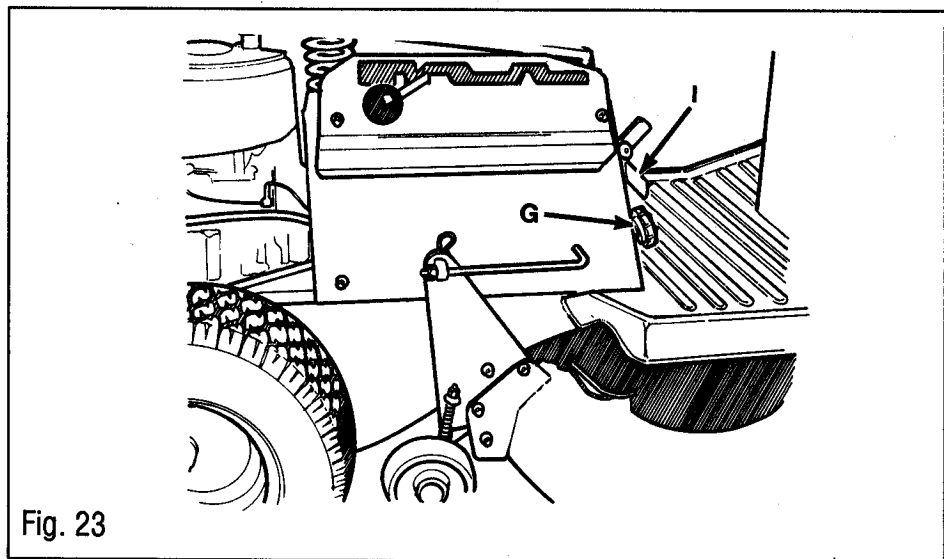

Fig. 23
9. With the mower blade drive lever (F, page 17, Fig. 23) in the disengaged (DOWN) position. Adjust nuts (R, Fig. 10) so all slack has been taken up in cable (S). Tighten nuts (R).
3. Adjust mower height adjusting knob (G, Fig. 23) so the mower blades are approximately 2-1/2" from the ground.